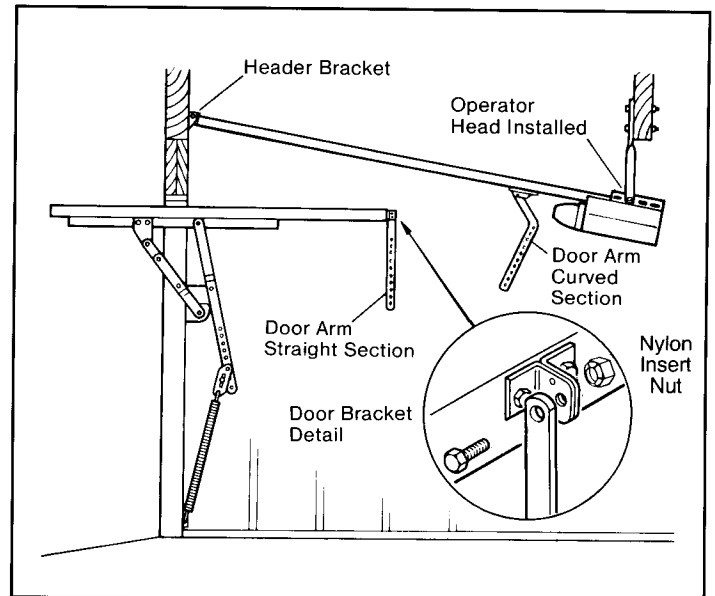

Figure 26
Step 63: Locate centerline of door. Refer to Figure 6, page 7. Next, install door bracket on centerline as close as possible to the top edge of the door. Use carriage bolts and keps nuts (see Figure 26).
Step 64: Hold the straight door arm up to the door bracket already mounted and align the proper holes (see Figure 26). With the other hand, insert the 5/16"x1" bolt into the aligned holes and secure with the 5/16"-18 nylon insert nut. Tighten the nut on the bolt, taking care to allow for free movement of the door arm.